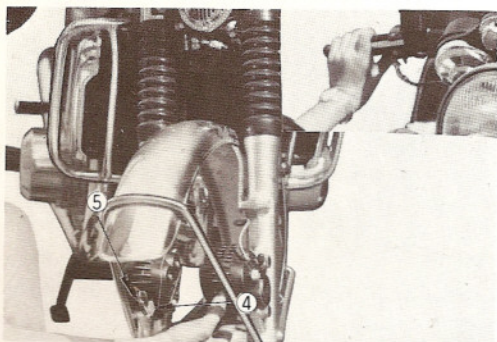

Fig. 4-2-10
- 6) Insert a spacer ④ between pads Nos. 1 and 2 of the right caliper to stop piston movement and clip it with an elastic rubber ring ⑤ to prevent it from falling as shown in Fig. 4-2-10.